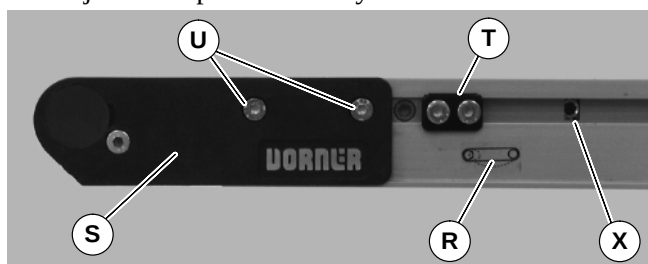
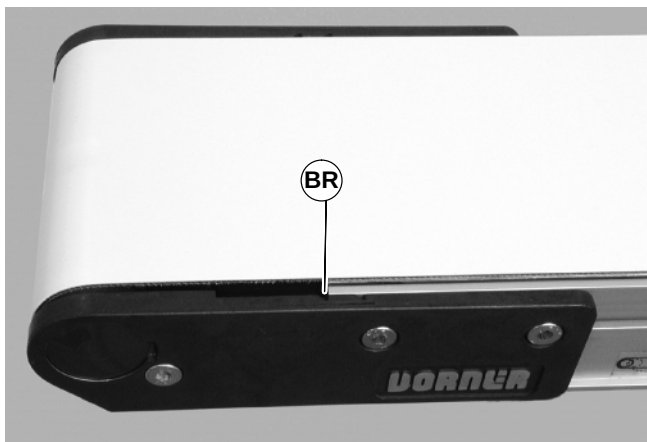

Figure 37
Figure 38
1. On tension end of the conveyor, identified with a label (R of Figure 37), adjust head plate assembly (S): On both sides of conveyor, loosen fastening screws (U) and rotate pinion gear (X) to adjust head plate assembly.
2. Adjust head plate assembly so end of conveyor frame aligns with first tensioning mark (BR of Figure 38). Tighten fastening screws (U of Figure 37) on both sides of conveyor to 7 Nm.
3. If equipped with cam tracking assemblies (T of Figure 37), reposition against head plates and adjust belt tracking. Refer to “Conveyor Belt Tracking”, page 16.